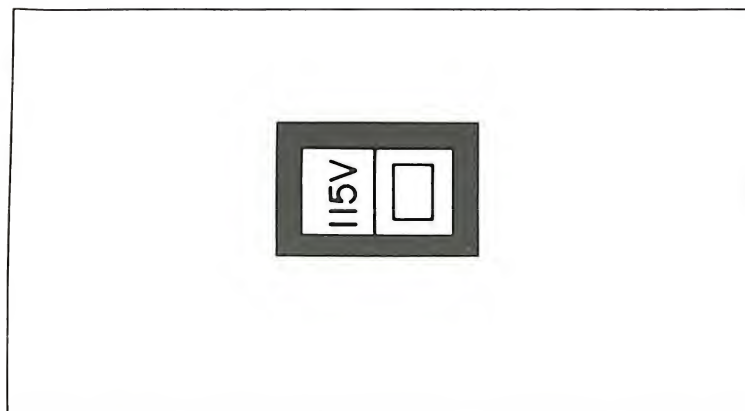

Figure 5-5. HP 9133H Voltage Switch Set for U.S.
5. Make sure the voltage switch is set to the voltage in your area. The voltage in the U.S. is 115 VAC, as shown in the Figure 5-5. (To change the voltage setting, push the switch to the right with a ball point pen for 115 VAC and to the left for 230 VAC.)